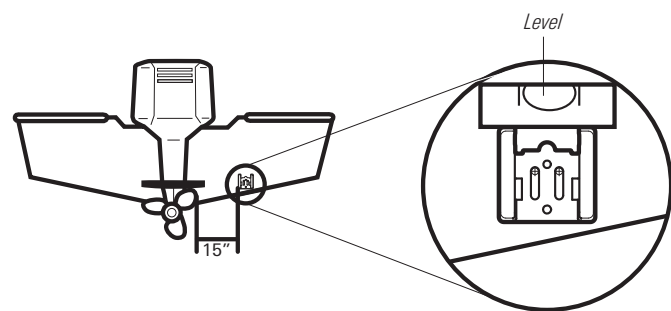

Figure 3
- As the boat moves through the water, turbulence is generated by the weight of the boat and the thrust of the propeller(s) - either clockwise or counterclockwise. This turbulent water is normally confined to areas immediately aft of ribs, strakes, or rows of rivets on the bottom of the boat, and in the immediate area of the propeller(s). Clockwise propellers create more turbulence on the port side. On outboard or inboard/outboard boats, it is best to locate the transducer at least 15" to the side of the propeller(s) (Figure 3).